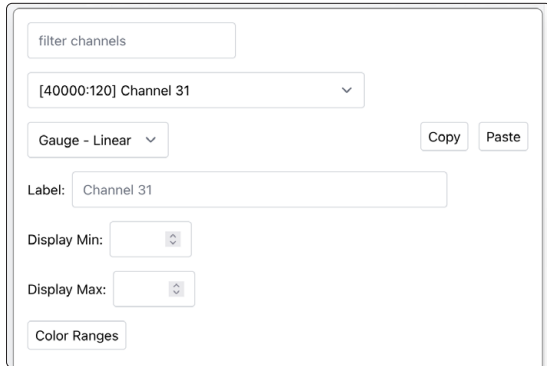
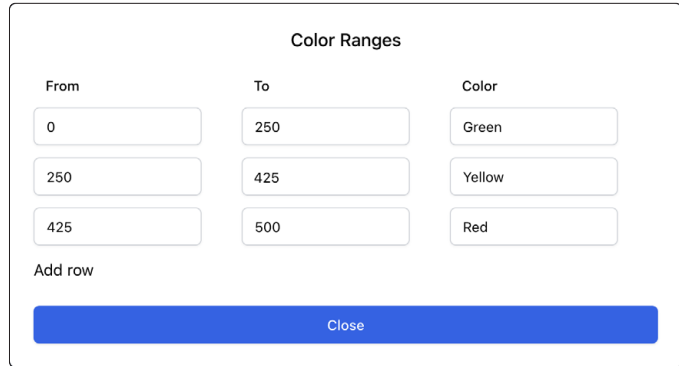

Figure 27
Figure 28
- f. **Display Min / Display Max Fields (Gauge and Trend Elements Only):** Edit the minimum and maximum values for the element. See *Figure 27*.
- g. **Color Ranges Button (Gauges Only):** Click to open the Color Ranges dialog to edit the color ranges for the gauge (see *Figure 27* and *Figure 28*):